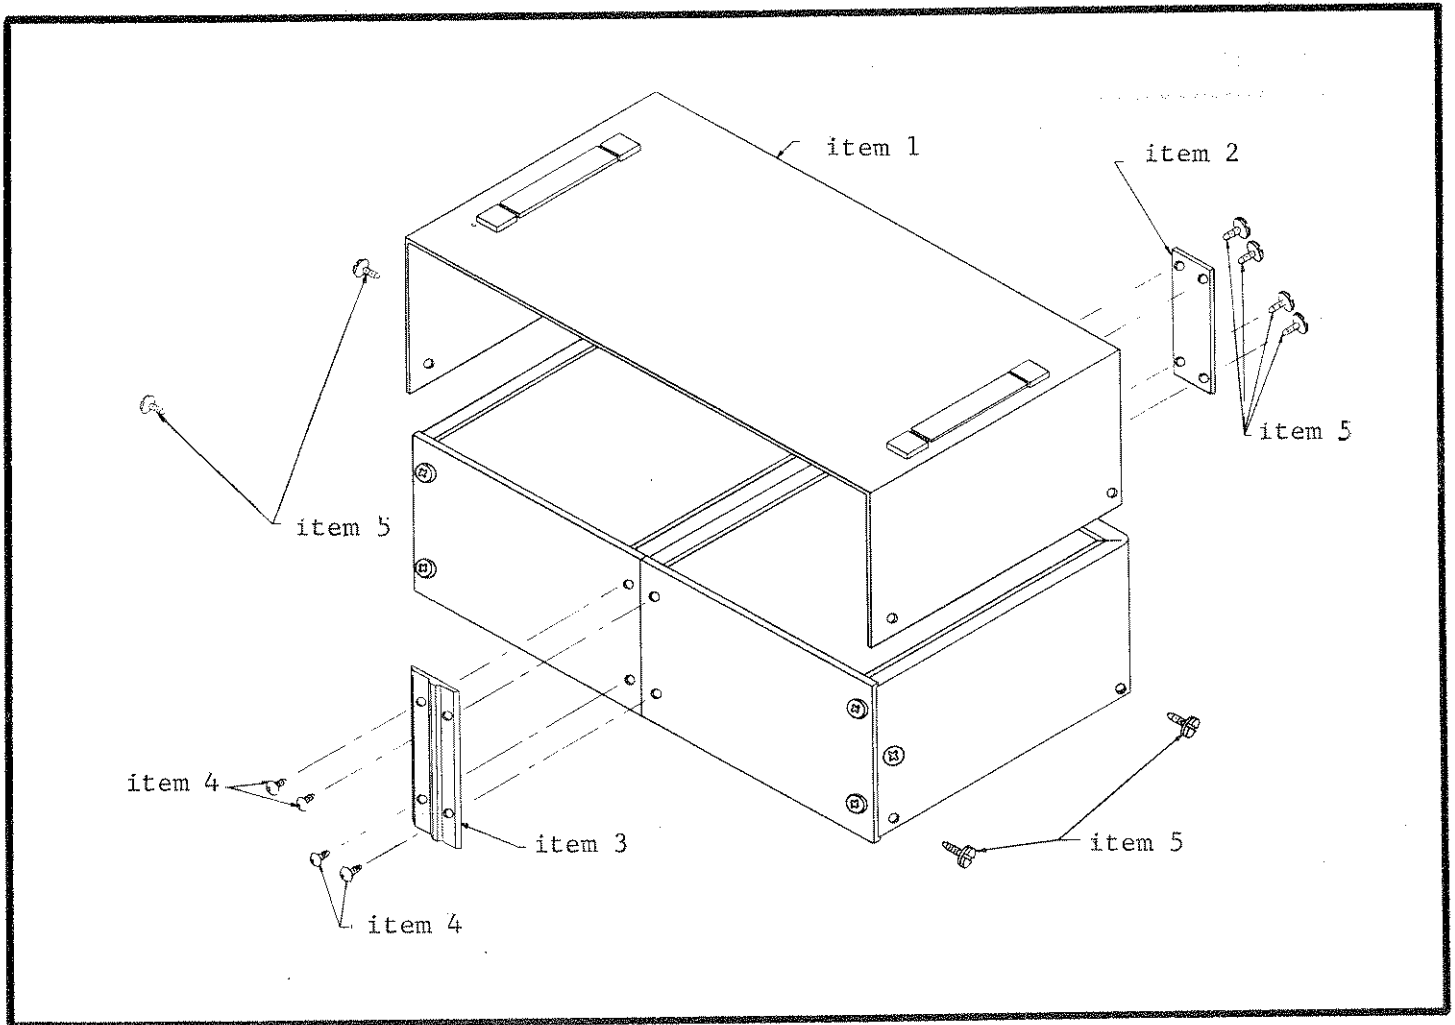

FIGURE 14. Assembly Drawing for Model 3004 Dual Bench Mounting Kit.
b. Procedures. Remove the wrap-around cover on each Source by removing the two corner screws at the bottom of each side. Assemble the Kit as shown in Figure 14. Attach in this order: chassis connecting plate (2), chassis connecting plate (3), and cover (1).